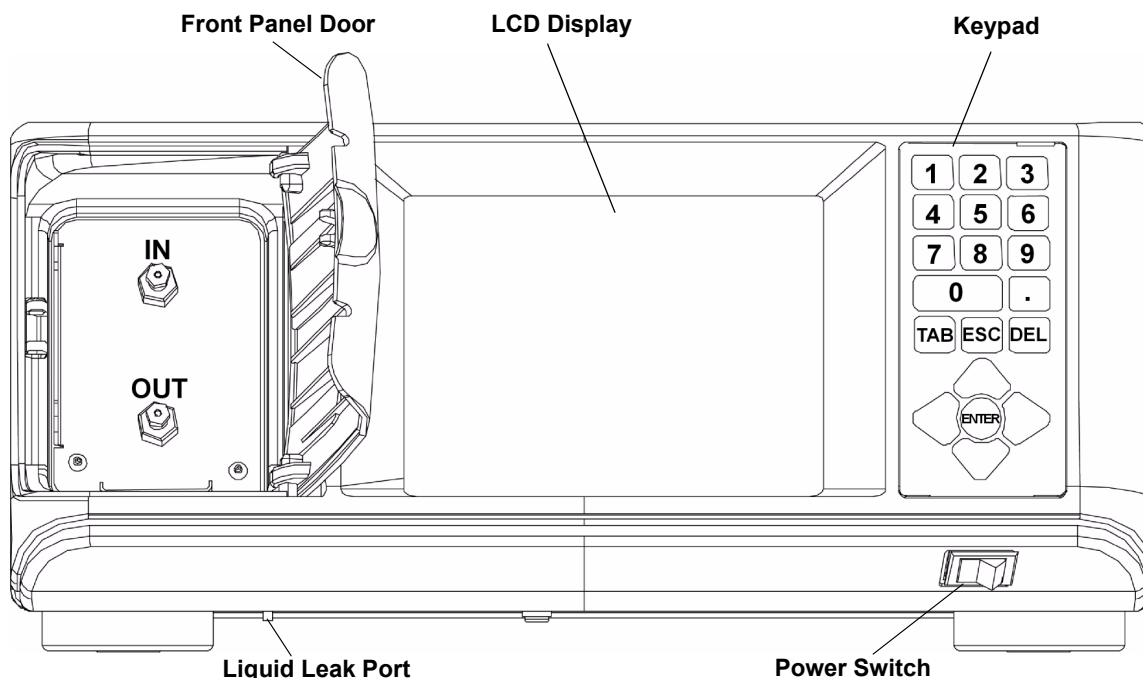

Figure 2-3: Front Panel
- 7. Purge the system with new solvent.** See Section 4.2 “Purging the ViscoStar” on page 4-2. Use at least 30 mL of co-miscible solvents step-wise as necessary to prepare the cell for data collection. Navigate to the IP Purge and DP Purge buttons using the front panel arrow keys (see Figure 2-3).
The front panel, see Figure 2-3, provides fluid connections for the ViscoStar, along with the display panel and display controls for operating the instrument and monitoring data.